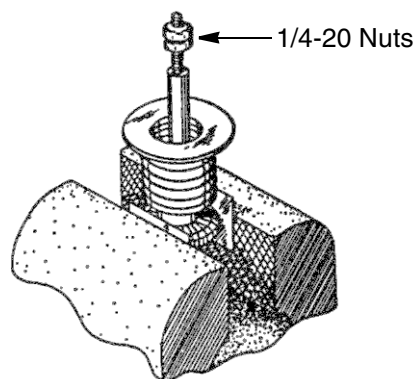

Figure 1-7 Removing the Stem from the Seal Disc
12. Remove the spring (9) from the valve stem (8).
13. Position the bellows/valve stem assembly in the vise with the valve stem pointed up and the seal disc between the jaws. Tighten the vise jaws on the seal disc periphery firmly but not so tight as to deform the seal disk (Figure 1-7).
14. Thread both nuts to the midpoint of the threaded section of the stem. Using two wrenches, tighten the two nuts into each other by turning the bottom nut counterclockwise while simultaneously turning the top nut clockwise (Figure 1-7).